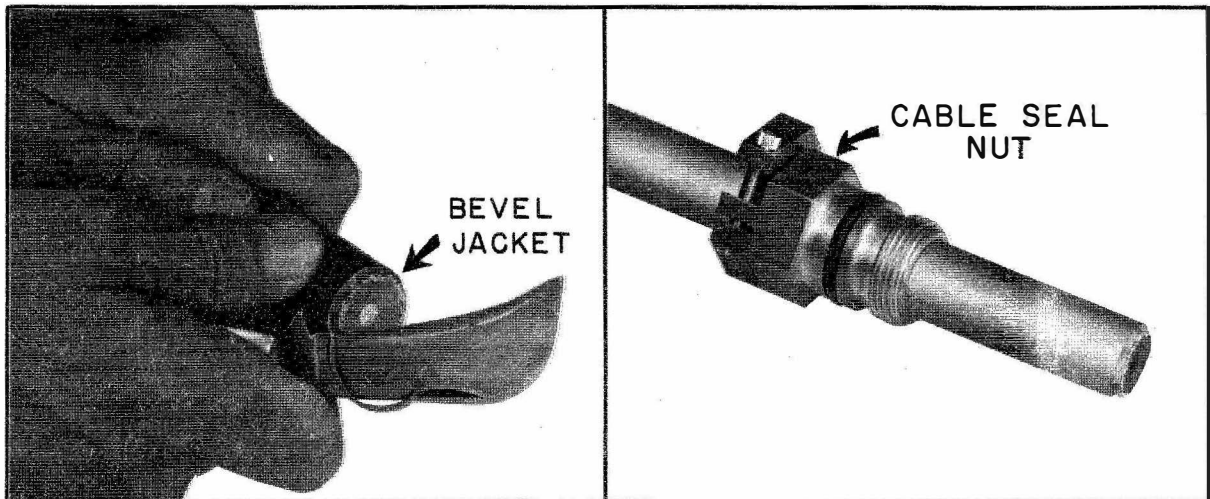

Figure 5-9b. Cable Seal Nut on Cable
Step 2. - Loosen the clamps, piece 2, on the cable seal nut, piece 4. Lubricate O-ring, piece 3, with insulating compound and install in the inside groove of the cable seal nut. Bevel the cable jacket at the end and slide the cable seal nut (clamp end first) over the cable until 6.0 inches of the cable protrudes through the cable seal nut as illustrated in figure 5-9b.